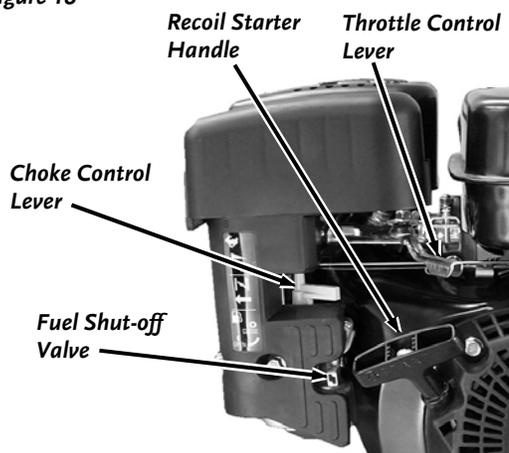
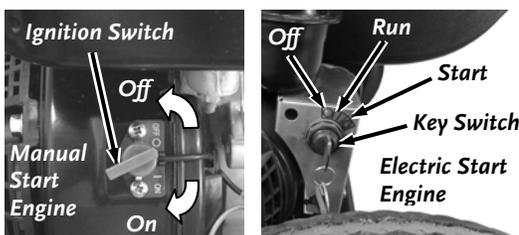

Figure 19
Figure 20
2. Make sure the fuel shut-off valve is in the "ON" position (**Figure 19**).
5. Manual Start: Turn the Ignition Switch to the "On" position (**Figure 20**). Grasp the recoil starter handle and slowly pull until you feel resistance (**Figure 19**). Let the cord retract a little bit then pull the cord rapidly to start the engine. One or two pulls usually starts the engine.
6. Electric Start: Turn and hold the Key in the "Start" position until Engine starts then let the Key return to run position (**Figure 20**).
7. Move the choke control lever (if used for cold engine) slowly back to the OPEN position (to the right) when the engine is running well (**Figure 19**).
1. Move the Throttle Lever to Idle "Turtle" position (**Figure 19**).
2. Manual Start: Turn the Ignition Switch to the "Off" position (**Figure 20**).